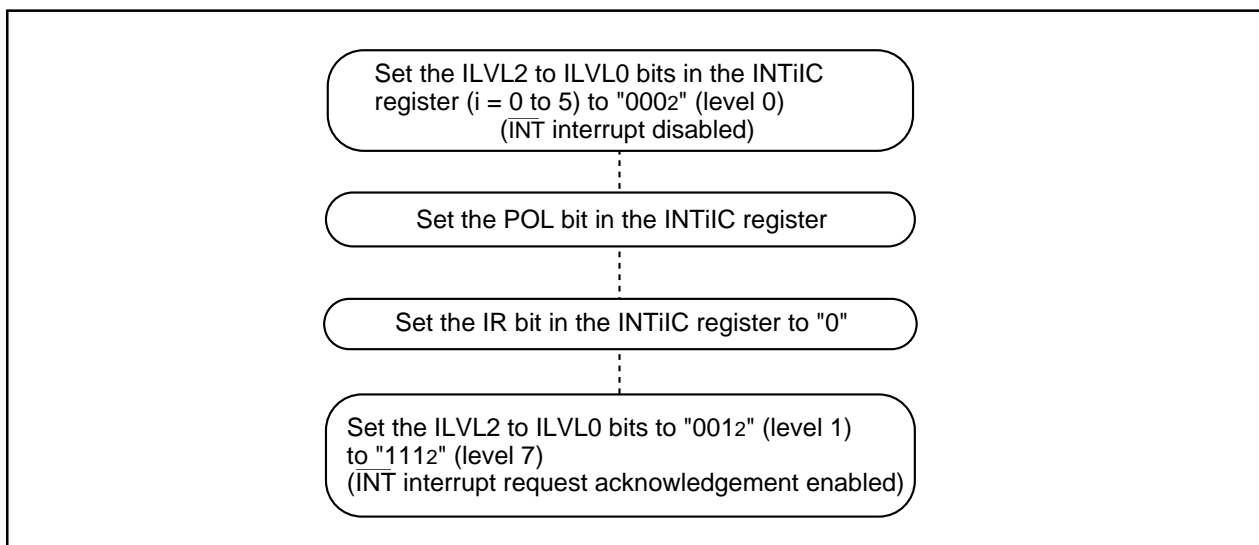

Figure 24.3 Switching Procedure for  $\overline{\text{INT}}$  Interrupt
- The IR bit setting may change to "1" (interrupt requested) when switching the polarity of the  $\overline{\text{INT}}0$  to  $\overline{\text{INT}}5$  pins. Set the IR bit to "0" (no interrupt requested) after selecting the polarity. Figure 24.3 shows an example of the switching procedure for the  $\overline{\text{INT}}$  interrupt.